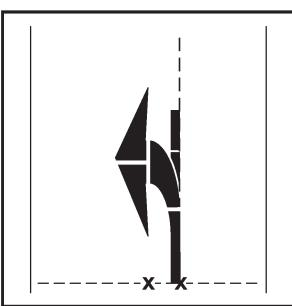

Figure 63
- Lay the base of the straight arrow along the chalk line using the **RIGHT** edge of the arrow (see Figure 63).